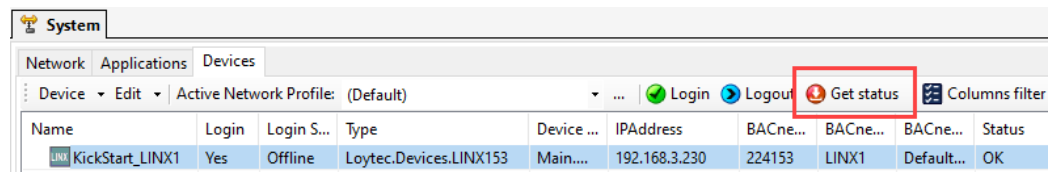

Figure 54: Test connection to the device resource.
23. To test click on the **Get status** button as shown in Figure 54. The **Status** column should now show **OK**.